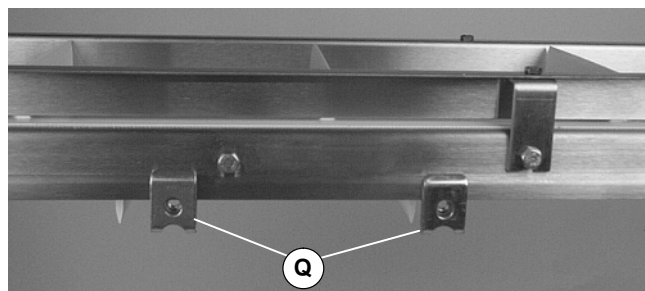

Figure 9
- Attach accessory mounting clips (Q of Figure 9) to conveyor.